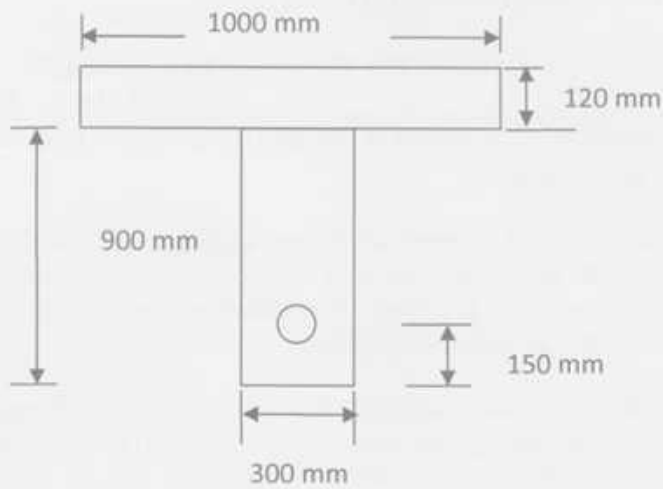

Figure: 1
1. (a) Make a preliminary design for section of a prestressed-concrete beam to resist a total moment of 480 kN-m including girder self weight moment 75 kN-m. Assume a trial depth of the section is $42\sqrt{M_T}$ in mm (where M_T is in kN-m). The effective prestress for steel is 850 MPa, and allowable stress for concrete under working load is -11 MPa. (8)
- (b) Make final design for the preliminary section obtained in 1(a) based on elastic theory and allowing tension in the concrete both at transfer and under working load. [Given values are $f_{ci}=35$ MPa, $f_b = 1.65$ MPa, $f_b = -12.5$ MPa, $f_o = 1035$ MPa, $F_o = 968$ kN]. (17)
2. (a) A simply supported concrete beam of 13 m span post tensioned with 860 mm² of high-tensile steel to an initial prestress of 1000 MPa. A concentrated load of 45 kN is applied at midspan immediately after prestressing. If $E_c = 36000$ MPa compute the initial deflection at midspan due to prestress and the beam's own weight. Cross section of the rectangular beam is of 300 mm width 500 mm depth. The c.g. of cable is 150 mm from bottom at midspan and 300 mm from top at end of section. Also estimate the deflection after 2.5 months assuming creep factor of 1.75. [Given that 20% loss of prestress occurs]. (15)
- (b) Draw four layouts of tendons in simple post-tensioned beam. (5)
- (c) Draw the load deflection curve of a prestressed beam. (5)
3. A section of simply supported composite beam of 25m span is shown in **Figure 1**. The precast stem is prestressed with an effective force of 1200 kN assuming a total loss as 15%. After this precast portion is erected in place, a top slab of 120mm by 1000 mm wide is cast in place and it produces a moment of 140 kN-m. After the slab has hardened the composite section is to carry a uniformly distributed live load moment of 650 kN-m. Moment at midspan due to weight of the precast section is 120 kN-m. Compute the stresses in the section at different stage of loading and also draw the stress distribution at these stages. [Given, $A_{ps} = 2200$ mm², $f_{pu} = 1340$ MPa, $f_c = 35$ MPa]. (25)